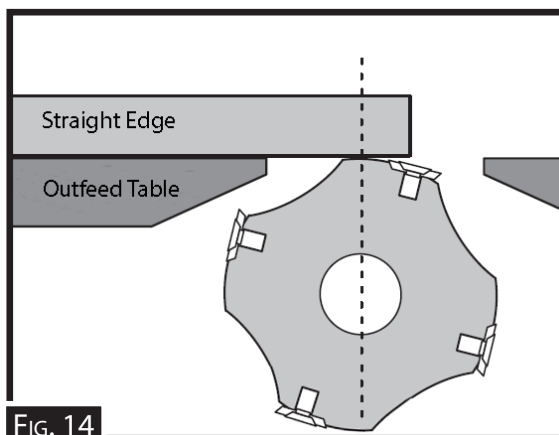

FIG. 14
5. Use a straight edge and feeler gauge to check that the cutter head is parallel with the outfeed table (shim if necessary) (Fig.14) Place the straightedge in position, on one side of the outfeed table and raise or lower outfeed table until the cutterhead body (not the insert) just touches straightedge. (Fig.14) Move the straightedge to the other side to determine if one end of cutterhead body is higher/lower than the other. (Place feeler gauge between cutterhead body and straightedge to determine the height difference.) Place shim under the bearing blocks until parallel.